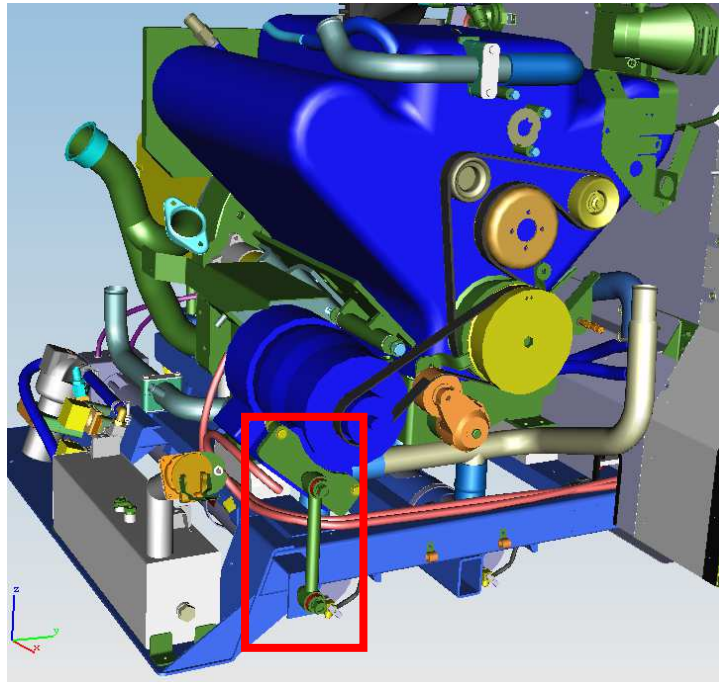

Figure 5: Alternator Reference
- e. Remove the old alternator mount assembly by unbolting the support rod and plate that holds the alternator in place. See Fig 5